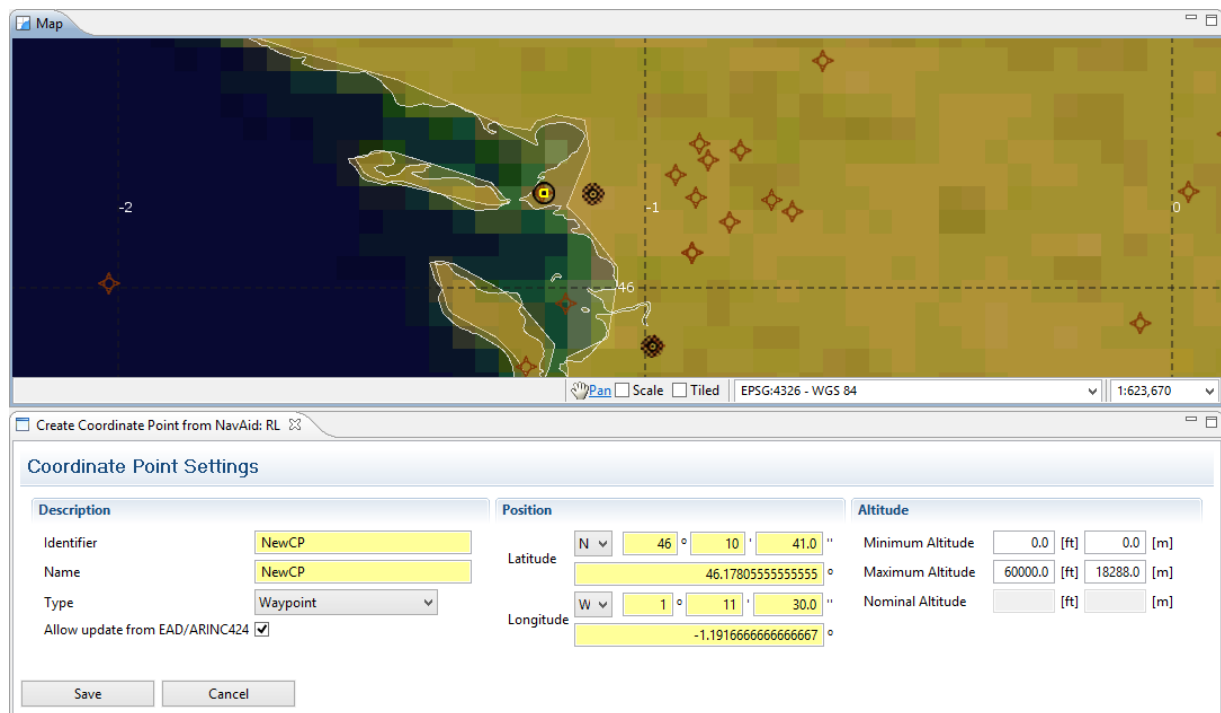

Figure 98: Create Coordinate Point from NavAid
- The last step is to enter fill all the fields as explained on “Create Coordinate Point” (**section 7.1.1**). Notice that in this case the Latitude and Longitude are already filled with the NavAid location information (Figure 98).